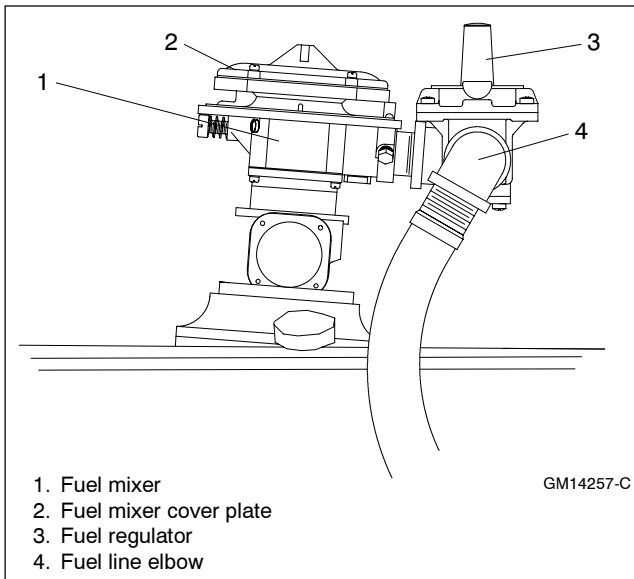

Figure 3 Fuel Mixer
- 2.1 Remove the five fuel mixer top plate screws. See Figure 3. Be aware that there is a spring under the fuel mixer diaphragm, that may cause the top plate and mixer diaphragm to pop up when the screws are loosened and removed.